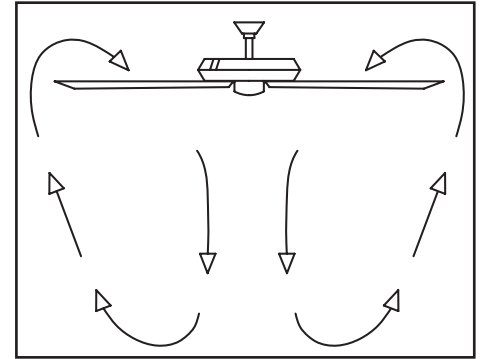

Figure 23
**Warm weather - (Forward)** A downward air flow creates a cooling effect as shown in Figure 23. This allows you to set your air conditioner on a higher setting without affecting your comfort.